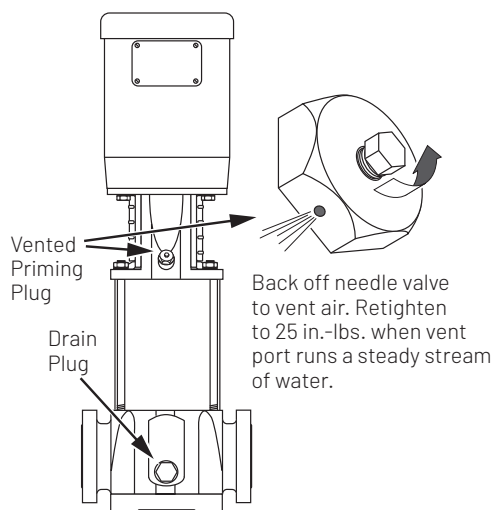

Figure 4 – Priming and Drain Plugs
1. Close the discharge isolating valve and loosen the needle valve located in the assembly in the pump head (Fig. 4). Do not remove the needle valve.